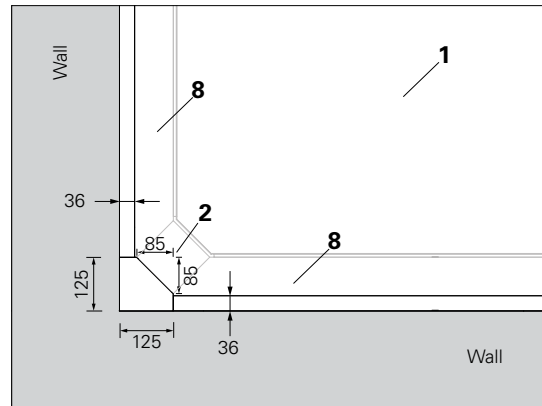
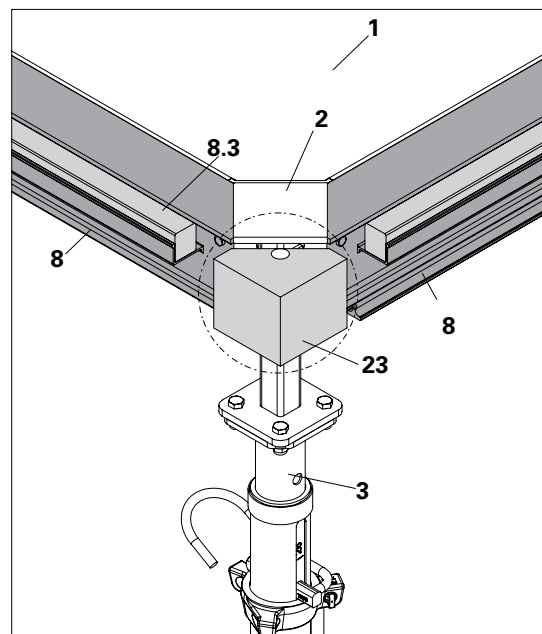
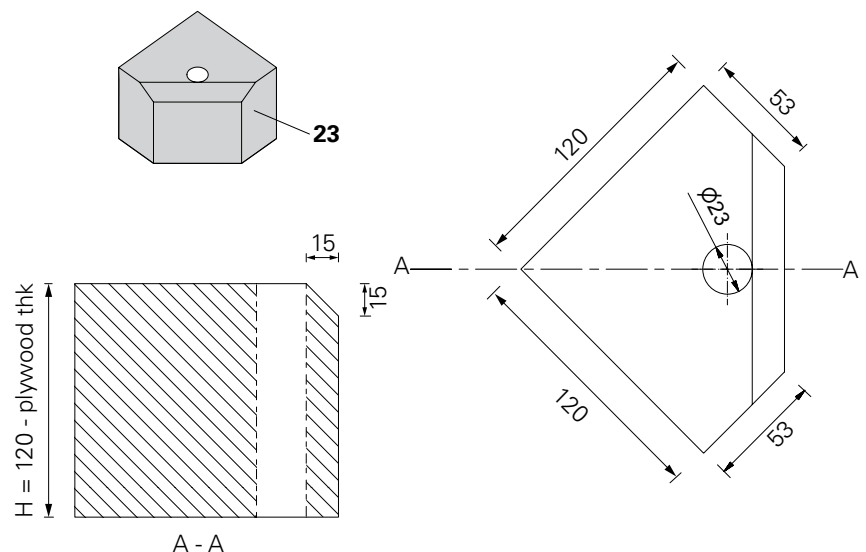

Fig. A6.14
Fig. A6.15
Fig. A6.16
1. Cut an infill plywood of 36 mm width and length = filler beam length (for e.g. 180 cm for ADF 180) and nail it to the timber infill (8.3) of the filler beam ADF (8). (Fig. A6.14 + Fig. A6.15)
2. Prepare a timber block (23) as per dimension shown. Height of timber H (in mm) = 120 - plywood thickness (Fig. A6.16)
3. Assemble the timber block (23) on flyplate pin of the drophead (2) at corner position and lock the wedge.
4. Erect the prop (3) attached with drophead (2) and timber block (23) at the wall corner in such a way that the timber block (23) touches the wall face in both directions. (Fig. A6.15)
7. Now, install the panel ADP (1) at the L-shaped corner.
2. Prepare a timber block (23) as per dimension shown where height of timber ($H = 120 - \text{plywood thickness}$). (Fig. A6.16)
3. Assemble the timber block (23) on flyplate pin of the drophead (2) near to beam corner position and lock the wedge. (Fig. A6.15)